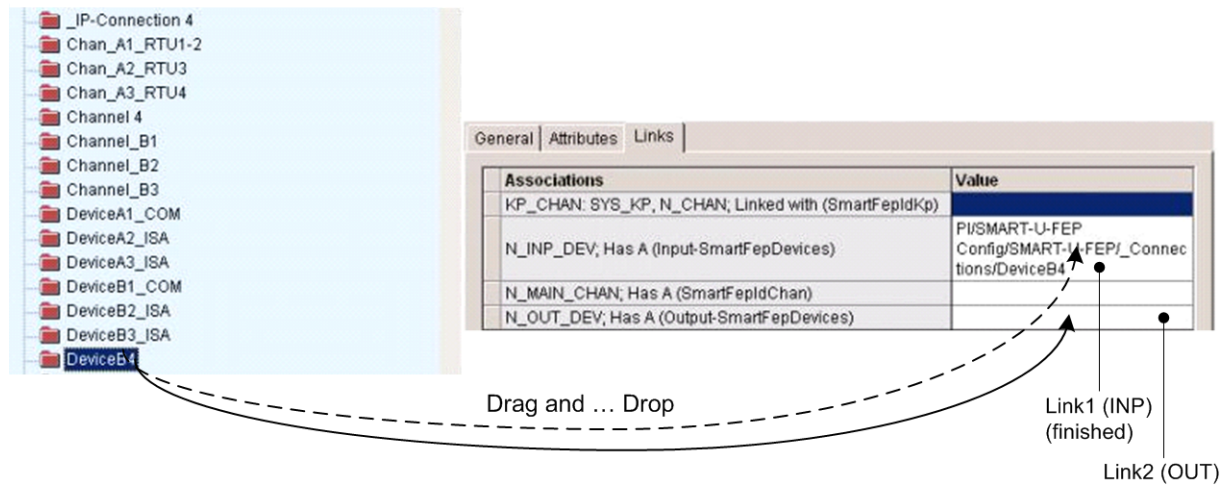

Figure 3-6.10: Establishing System Links
Open tab **Links** and establish the required system links by "Drag & Drop" as follows: Select the desired instance in the Overview Pane and drag it to the reference field in the Instance Editor. As soon as the cursor reaches the target field it changes to a + sign and you can release the right mouse button: The reference instance "drops" into the target field, see Figure 3-6.10.
3. Open tab **Links** and establish two system links (for "N_INP_DEV ..." and "N_OUT_DEV ...") to the associated device, here: to "Device B4" and also to the RTU that uses this channel, see Figure 3-6.10